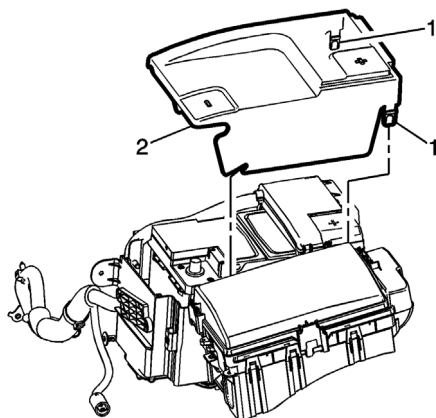

Fig. 7 Battery cover installation
9. Install battery cover (2) with retaining tabs (1), **Fig. 7**.